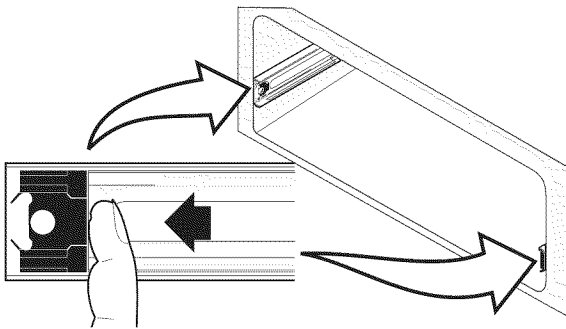

Figure 2
1. **Pull the plastic slider to the front** of the glide slots on each side of the drawer cavity (See Figure 2).